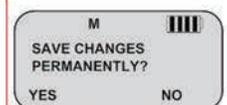

Figure 8
19. Once all parameters are entered, press the "Exit" softkey. (See Figure 8)
2. Attach each end of the cloning cable to each Accessories Jack on top of the radio. *(See Figure 8)*